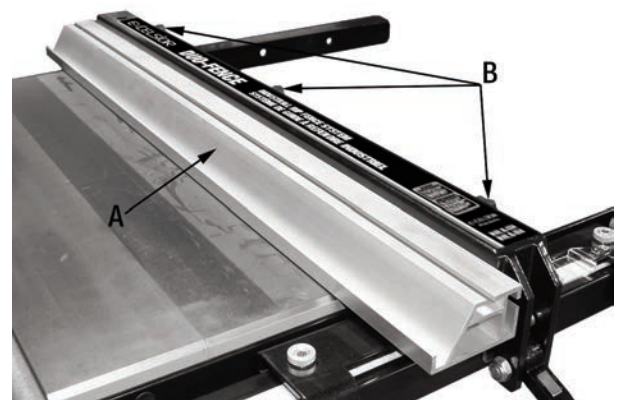
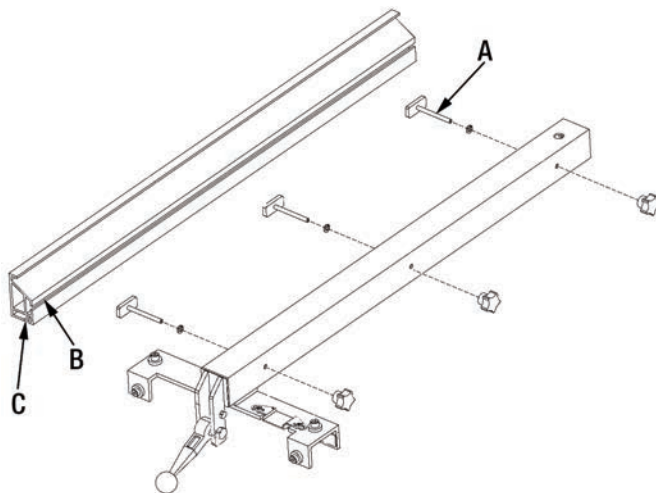

FIGURE 7
FIGURE 8
When ripping narrow or thin stock, it is recommended to reposition the aluminum facing in the “low” position as shown in Fig.7. Installing the aluminum facing in this position will allow your hand to have a safe place to pass. To change the orientation of the aluminum facing, follow these instructions:
- 2) Slide the aluminum facing forward until the 3 T-bolts (A) Fig.8 exit the T-slot (B) in the aluminum facing, remove aluminum facing.
- 3) Turn the aluminum facing sideways to the low position as shown in Fig.7. Use the low position T-slot (C) Fig.8 to remount it to the fence body.
- 4) Insert one T-bolt at a time into the low position T-slot as you slide the aluminum facing against the fence body, once positioned retighten lock knobs (B) Fig.7.